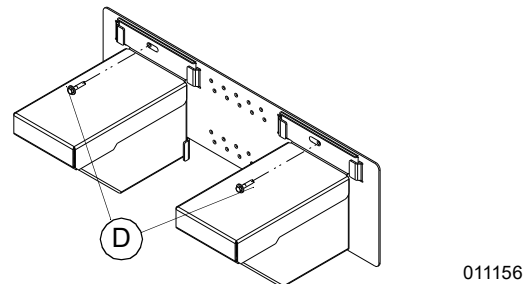

Figure 4-5. Install Top Fasteners Through Stands and Foot Bracket
- See Figure 4-5. Use flat washers and fasteners (D) to secure top of foot bracket and stands.